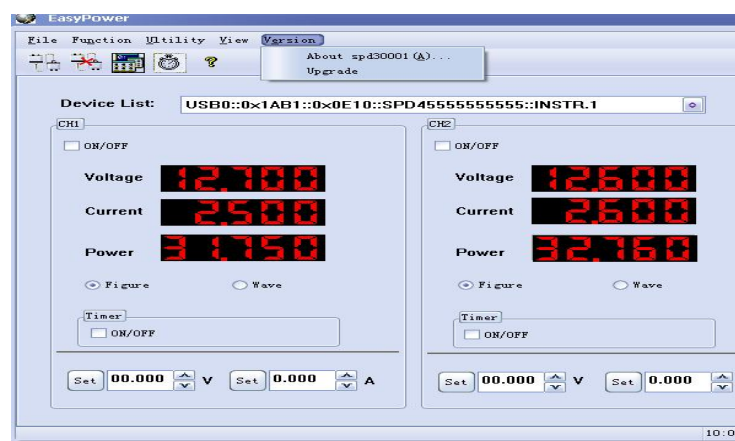

Figure 1
2. Click Version and then choose Upgrade in the drop-down menu to enter the USB firmware upgrade dialogue. See figure 1: